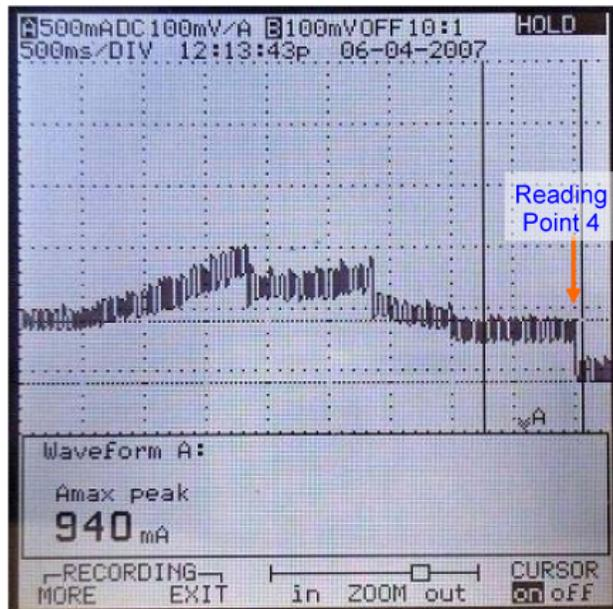

Figure 21. Maximum Current Value of Reading Point 4.
- 8.10 Use LEFT CURSOR and RIGHT CURSOR buttons to position cursors as shown in Figure 21.